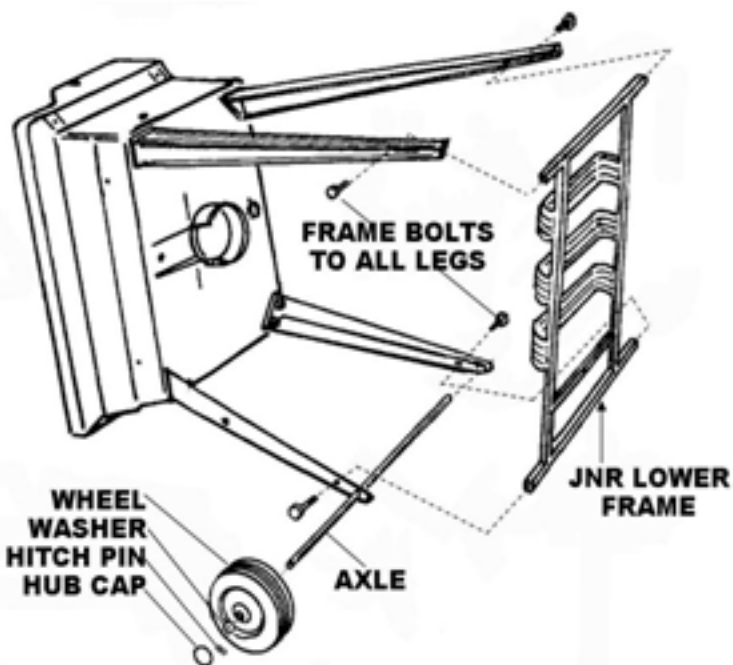

Fig. 4
- (B) JCP and JCN (Fig. 4) carts use (4) 1/4-20x 3/4" slotted head bolts to fasten the frame at all 4 corners.
Step 3: JNR4 Lower Shelf Assembly (Fig. 4)